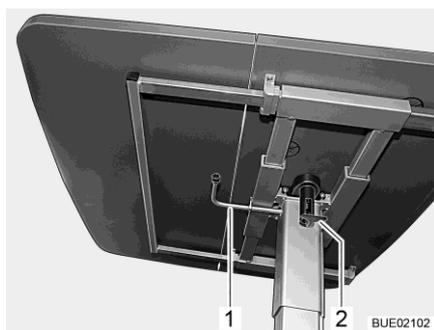

Fig. 133 Lift-off table
- Fold down the catch lever (Fig. 133,2).
- Swivel the lever (Fig. 133,1) underneath the table top by 180° in a clockwise direction. The lifting mechanism in the table leg is unlocked.
- Swivel the lever (Fig. 133,1) underneath the table top by 180° in a clockwise direction. The table top moves automatically upwards to the limit stop.